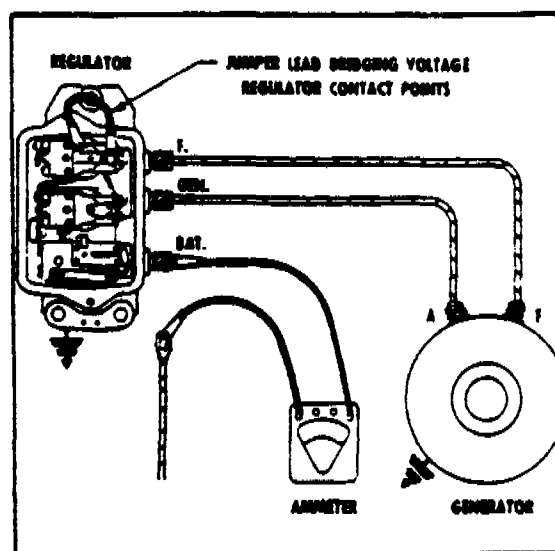

FIGURE 9-14. CHECKING CURRENT LEAD METHOD, JUMPER LEAD METHOD
- a. Connect ammeter into charging circuit, as in Figure 9-14.
- b. Connect jumper lead across voltage regulator points, as in Figure 9-14.